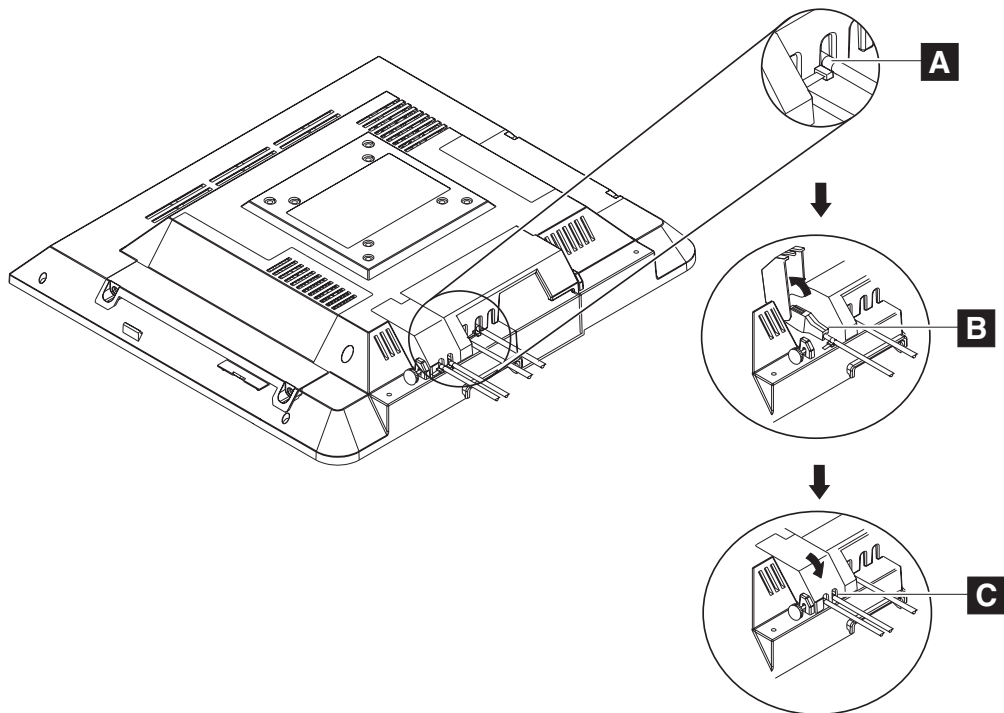

Figure 4. Retaining the cables using cable ties
The RS-232 cable is retained to the system unit with screws. The Ethernet cable is retained by a snap on the connector. When closed, the cable cover retains the power cable. See Figure 4.
2. Install the cable ties to the cable just outside the cable cover as shown in **A** in Figure 4.
3. Open the cable covers ( **B** in Figure 4).
5. Close and secure the cable covers with the cable ties inside of the covers ( **C** in Figure 4).